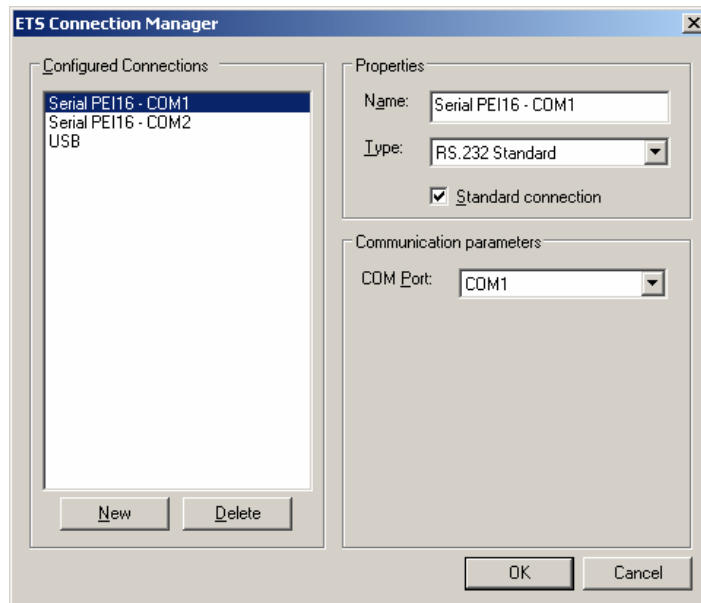

Fig. 5: ETS Connection Manager
2. Select the "Configure interfaces" button. The "ETS Connection Manager" is opened (cf. Fig. 5).